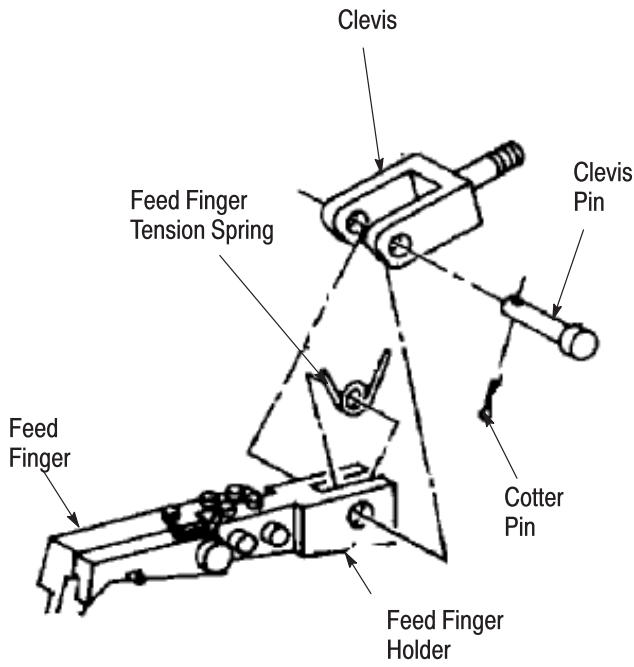

Figure 2
3. Remove the cotter pins from the clevis pin. See Figure 2.
1. Place the new feed finger holder (with the attached feed finger) in the clevis. See Figure 2.